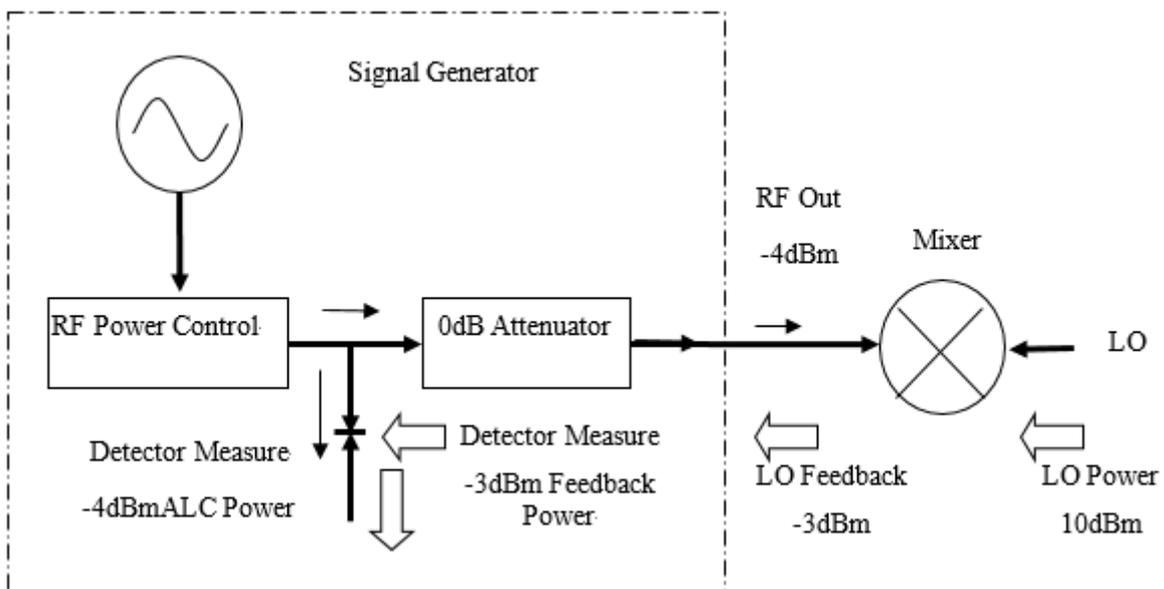

Figure 4-1 Inverse Power Impact, Direct Output-4dBm
It is to describe that the attenuator Hold Mode is used for mixer test. In the example shown in Figure 4-1, the output power of the signal generator is -4dBm , in internal leveling mode, the attenuator's attenuation $=0\text{dB}$ and ALC Power Level $= -4\text{dBm}$. The Local Oscillation (LO) drive of the mixer is $+10\text{dBm}$, and the isolation from LO to the RF output of signal generator is 13dB . The power from LO feedthrough to the output end of signal generator is -3dBm that passes the attenuator without loss and reaches the internal detector. For some frequencies, most of this energy can enter the detector. But the input response of detector has little to do with frequency. This energy makes the leveling circuit of signal generator reduce power output. In this example, the inverse power is actually higher than ALC Power Level, thus turning off the power output of the signal generator in fact.